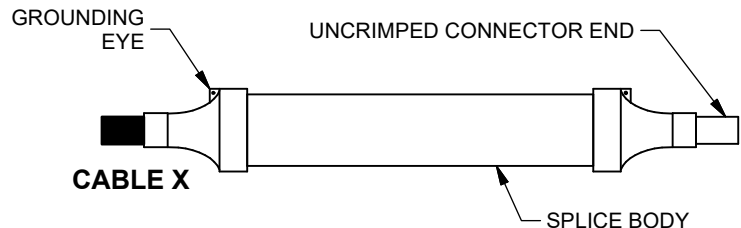

Figure 2
6. Slide the splice body onto connector and cable "X" until the uncrimped connector end is exposed. See Figure 2.